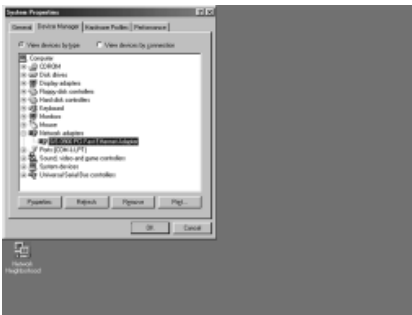

Figure 17
- Double click [System] → Click [Device Manager] → Click "+" to the left of the "Network adapters", the screen will appear Figure 17. Highlight the LAN driver is installed successfully.